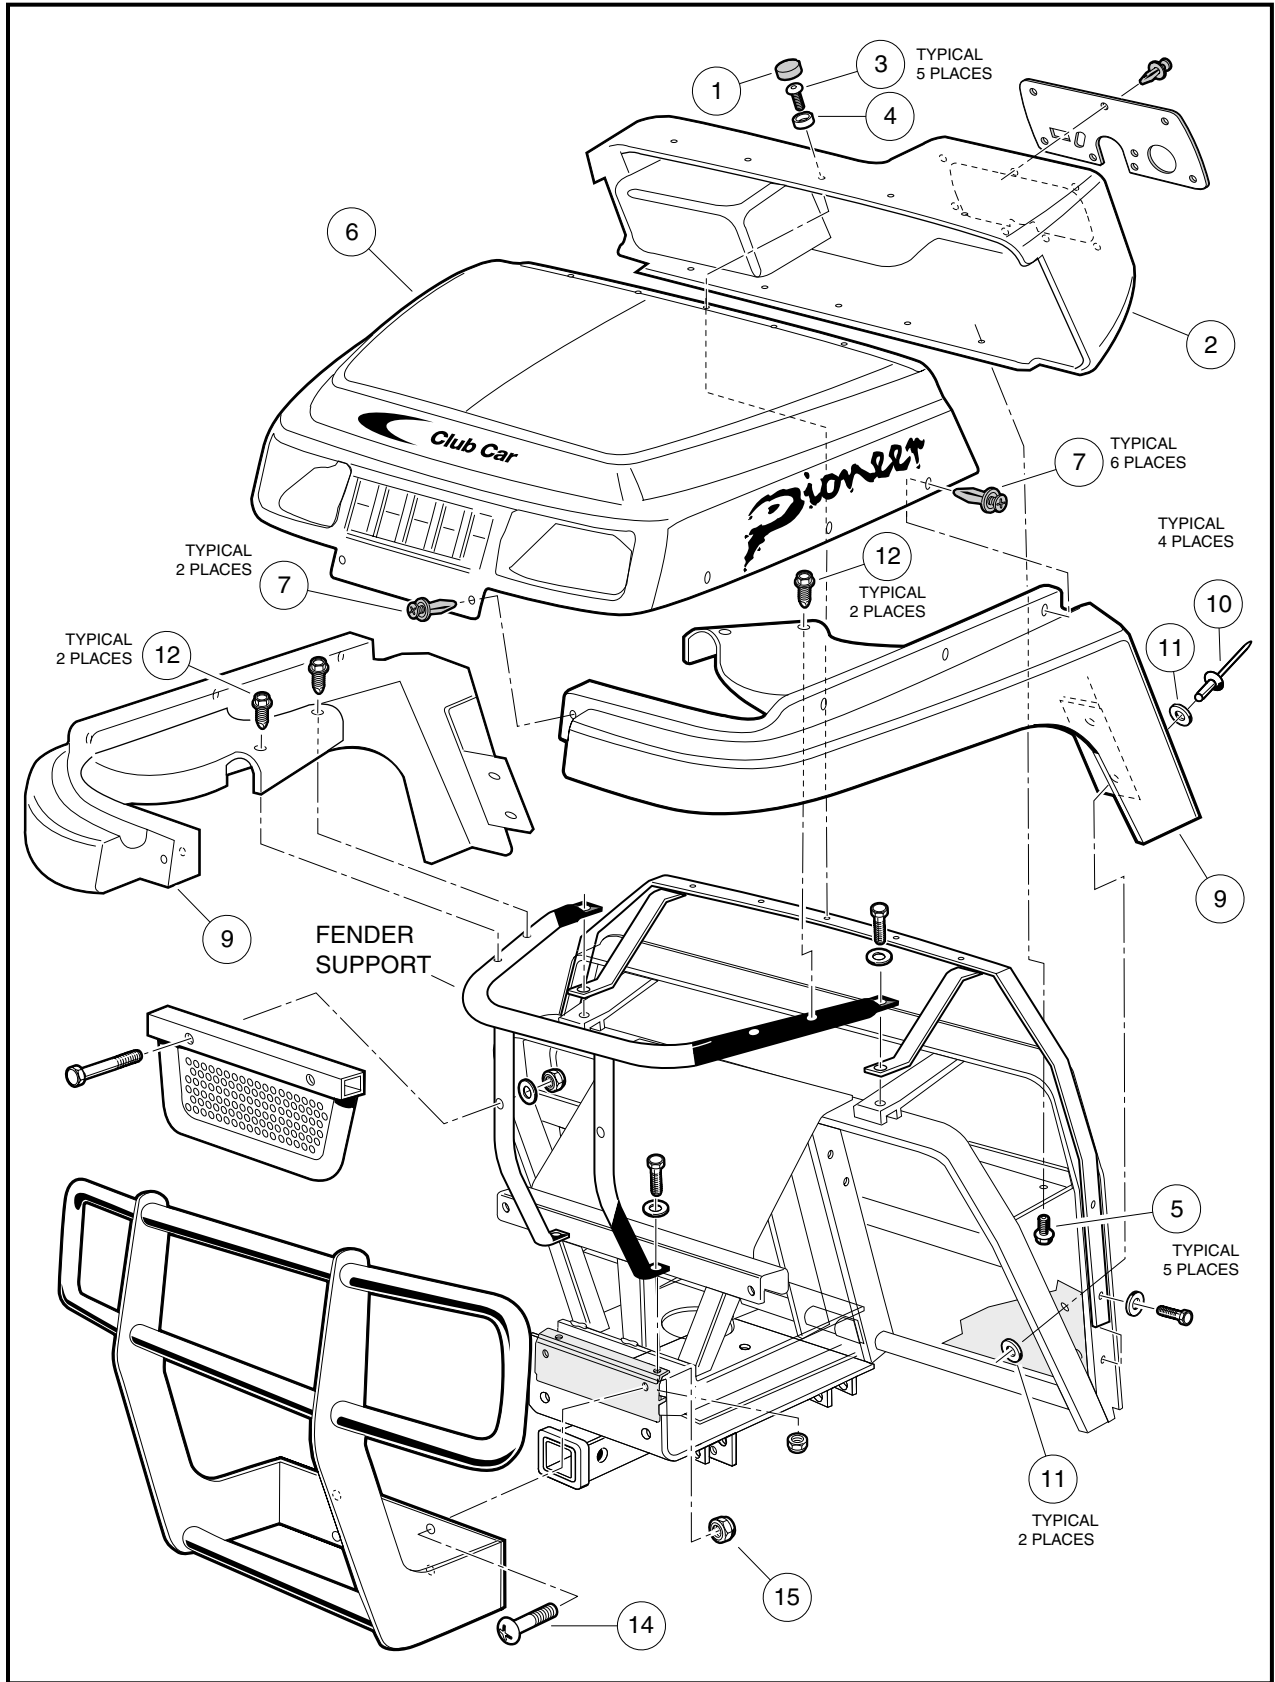

Figure 4-2 Front Body Assembly
1. Remove the four truss-head screws (14) and nuts (15) that secure the brush guard to the vehicle frame (**Figure 4-2, Page 4-7**).
1. Installation is the reverse of removal. Tighten the two nuts (15) to 15 ft-lb (20.3 N·m) (**Figure 4-2, Page 4-7**).
4. Remove five caps (1) from top of dashboard (2) (**Figure 4-2, Page 4-7**).
5. Using a Torx #T-30 driver, remove screws (3) and special plastic washers (4) from top of dashboard (2).
6. Using a 5/16 nut driver, remove five screws (5) from underside of dashboard and pull dashboard away from front body (6).
1. Install dashboard (2) and tighten screws (5) to 11 in-lb (1.2 N·m) (**Figure 4-2, Page 4-7**).
2. Using a Torx #T-30 driver, secure dashboard to front body with five Torx-head screws (3) and special plastic washers (4). Tighten screws to 45 in-lb (5.1 N·m).
3. Install five caps (1).
1. Remove five caps (1) from top of dashboard (2) (**Figure 4-2, Page 4-7**).
2. Using a Torx #T-30 driver, remove the Torx-head screws (3) and washers (4) from top of front body (6).
3. Using a 5/16 nut driver, remove five screws (5) from underside of dashboard (2) and gently slide dashboard away from front body (6).
4. Using a phillips head screwdriver, remove the six Tuflok fasteners (7) from sides and two (7) from front of front body (6).
6. Lift the back edge of the body up and pull front body forward to clear dashboard, and lift off vehicle (**Figure 4-2, Page 4-7**).
1. Remove front body (6) (**Figure 4-2, Page 4-7**). See **Front Body Removal on page 4-4**.
2. Pull back floor mat to access rivets securing front fender (9) to frame. Drill out two 3/16 x 5/8 pop rivets (10) and remove two washers (11).
3. Using a 3/8 hex-head socket, remove two screws (12) from fender frame support.
1. Reverse removal procedure to install front fender by locating the fender on the vehicle, aligning the fender panel with the pop rivet hole locations on the frame (**Figure 4-2, Page 4-7**).
2. Tighten two screws (12) using a 3/8 hex-head driver to 50 in-lb (5.7 N·m) (**Figure 4-2, Page 4-7**).
3. Pop rivet fender to frame using two 3/16 x 5/8 pop rivets (10) and two 3/16 rivet washers (11).
1. Place front body (6) onto vehicle and connect the lighting wire harness to each headlight assembly (**Figure 4-2, Page 4-7**).
2. Using a Torx #T-30 driver, secure front body to dashboard with five Torx-head screws (3) and special plastic washers (4). Tighten screws to 45 in-lb (5.1 N·m).
4. Secure front body to fenders with eight Tuflok fasteners (7). To install the Tuflok fasteners, insert into hole and push the head in until it snaps in place.